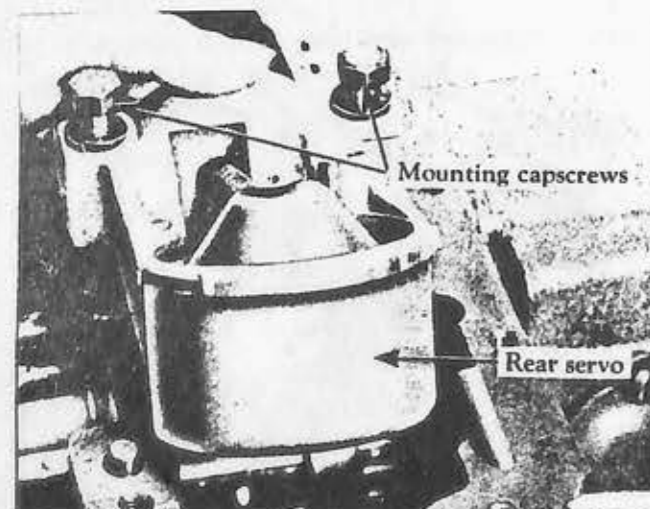

Fig. 33
2. Remove the rear servo attaching capscrews. Hold the actuating and anchor struts with the fingers, then lift the servo from the case (Fig. 33). **CAUTION:** Do not let the struts drop into the case.